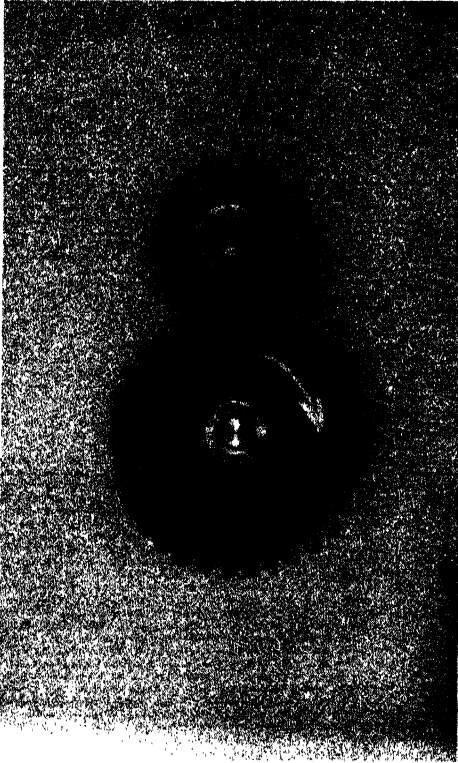

FIG. 133A. SPUR GEARS - NO IDLERS
Arrange the wheels in the combinations shown in Fig. 133A.
1. How many turns did the driver (B) make in moving the driven gear (A) through one complete revolution? .....
Place an arrow on the driven gear (A) (Fig. 133A) to indicate the direction in which it turns.
2. The driven gear (A) turned in the (same, opposite) ..... direction as the driver (B).